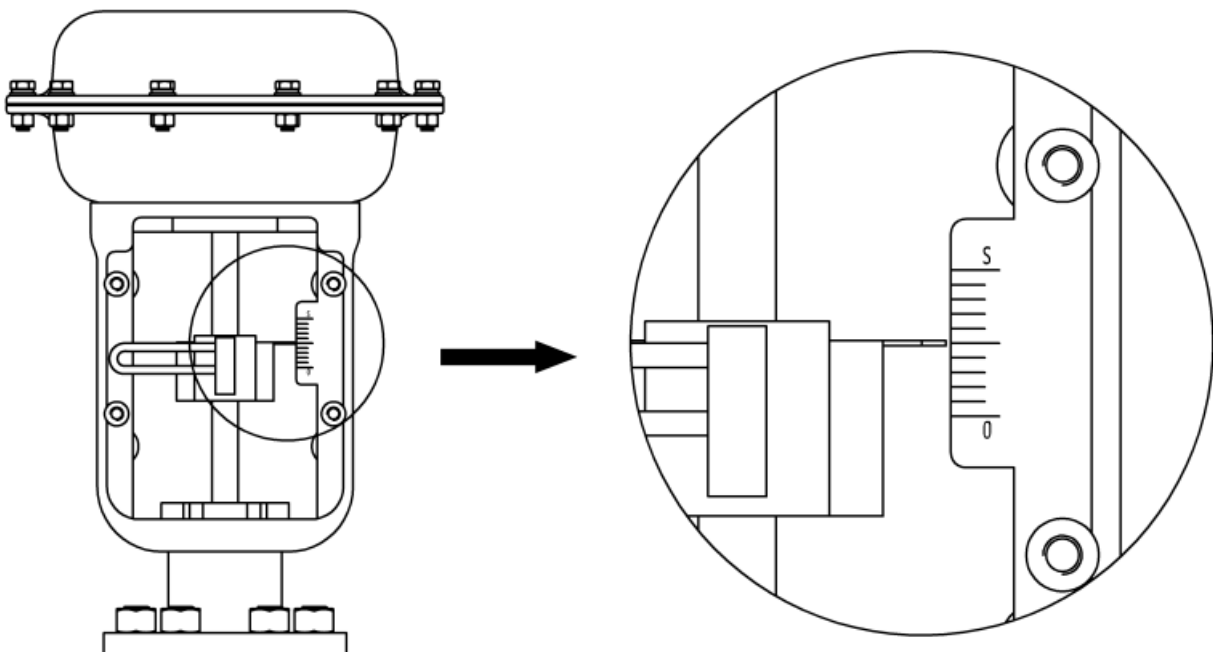
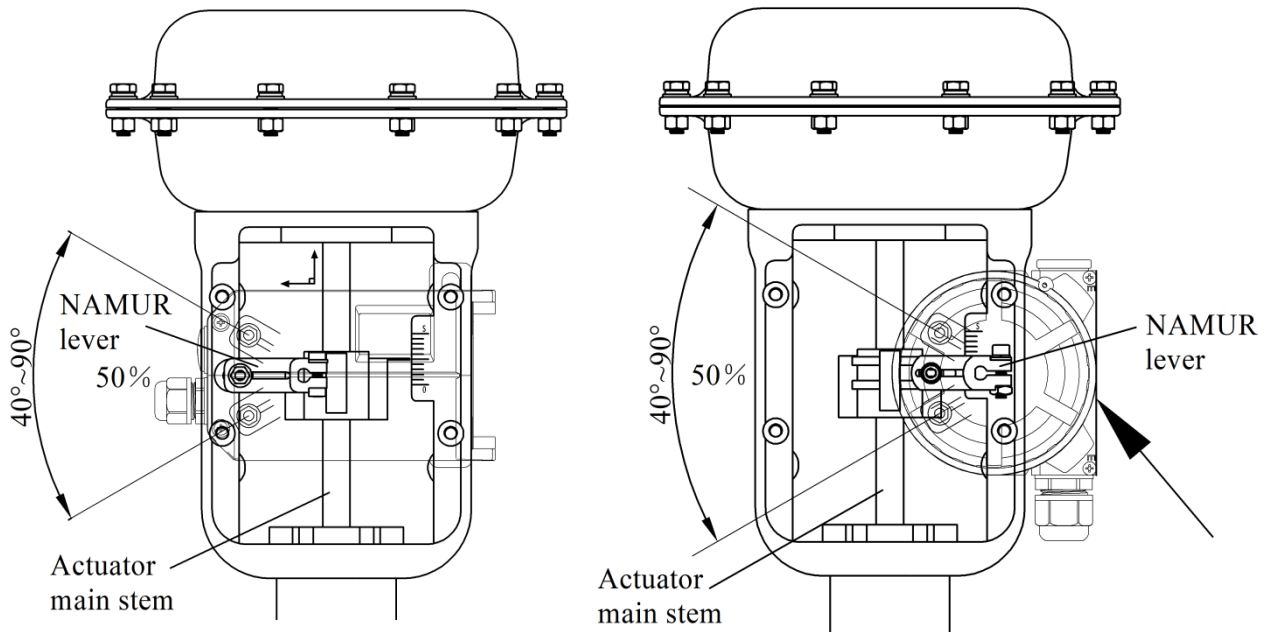

Figure 15. Valve mid-stroke point
Figure 16. Installation with actuator
- Input air to the valve cylinder, adjust the valve position to the mid-stroke point according to the stroke ruler on the valve, as shown in Figure 15.
- Hold the linear stroke mounting bracket⑦ against the actuator. Plug the head of feedback lever ⑤ into the U-shaped rod①. Make the valve main stem and feedback lever are at right angle. If it cannot be at right angle, install according to the actual situation.
- For the positioner of normal linear type, make the upper plane of the positioner housing at a right angle to the main stem of the valve. If it cannot be at a right angle, it is need to calibrate the reference point of the feedback lever. For the positioner of remote linear type, make the plane indicated by the arrow (on the right side of Figure 16) on the sensor housing and the main stem of the valve are parallel to each other. If it cannot be parallel, it is need to calibrate the reference point of the feedback lever. For detailed introduction and operation of reference point calibration, see chapter 8.3.2.14. Otherwise it will affect the control accuracy. Finally, tighten the bracket with bolts.